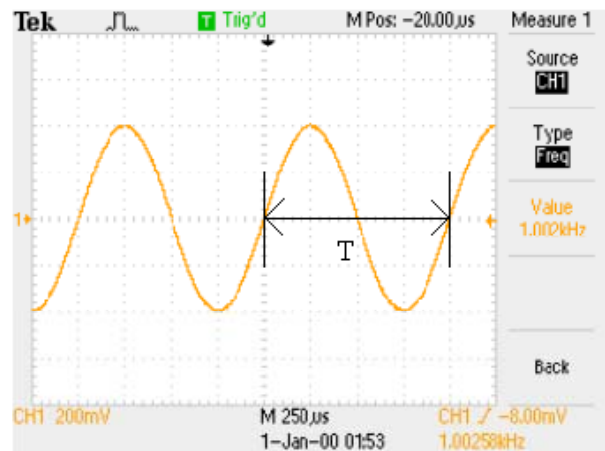

Figure 11: Timing Measurements
4. The frequency $F = 1/T = 1/(1 \text{ msec}) = 1 \text{ KHz}$, as expected. Check to see if you have something like Figure 11.
The automatic measurement method is nearly identical to the previous section. Push the *Measure* button followed by one of the measurement options in the side menu. Once again, this should give you the side menu in Figure 11. Make sure the *Source* is set to *CH1* and the *Type* is set to *Freq*. Push the *Measure* button once more and you will then see the real-time value of your signal to be approximately 1 KHz. Changing the frequency on the function generator will automatically change the measurement on the scope. You may notice that the